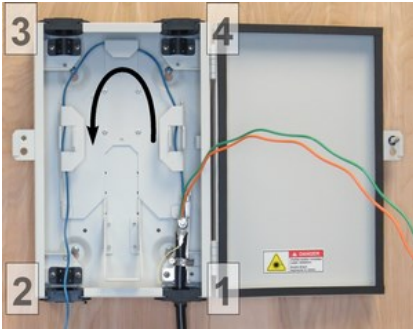

Fig. 29
1. Separate the designated fibers/tubes to be spliced and store the slack length desired in the slack basket. Make sure the tube length reaches around/behind the tray tower and to the desired tray tie-down location (Fig. 29).